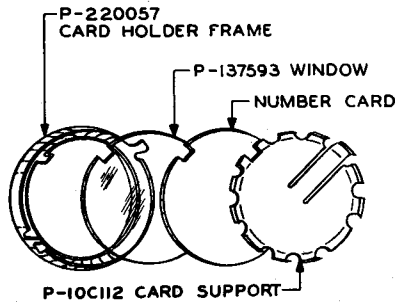

Fig. 9 - Assembly of Card Holder Parts
3. To revise the figure covering Assembly of Card Holder Parts (Fig. 9).